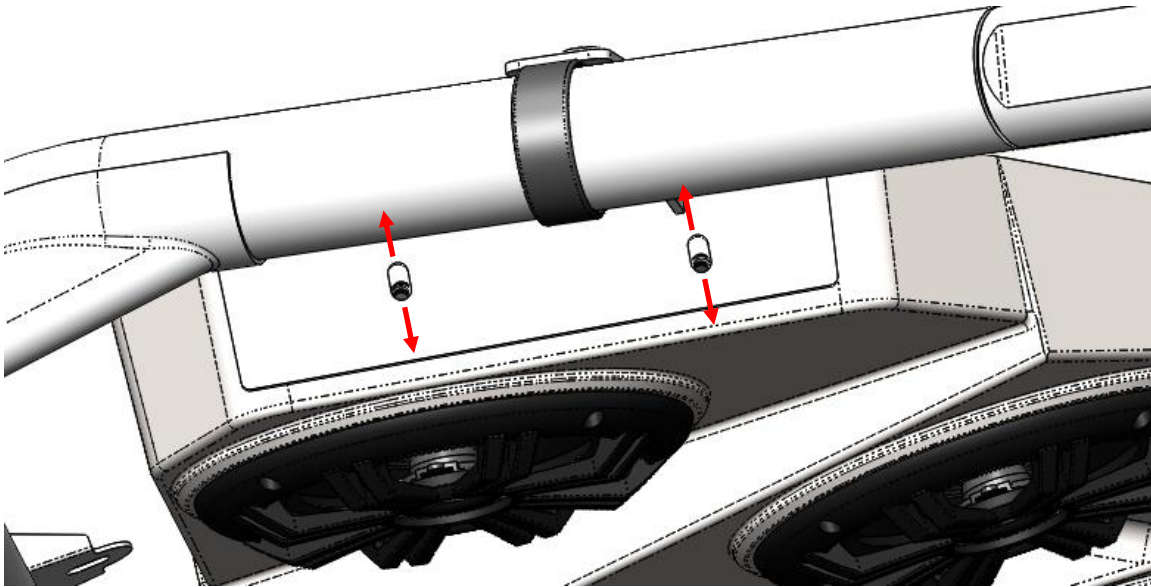
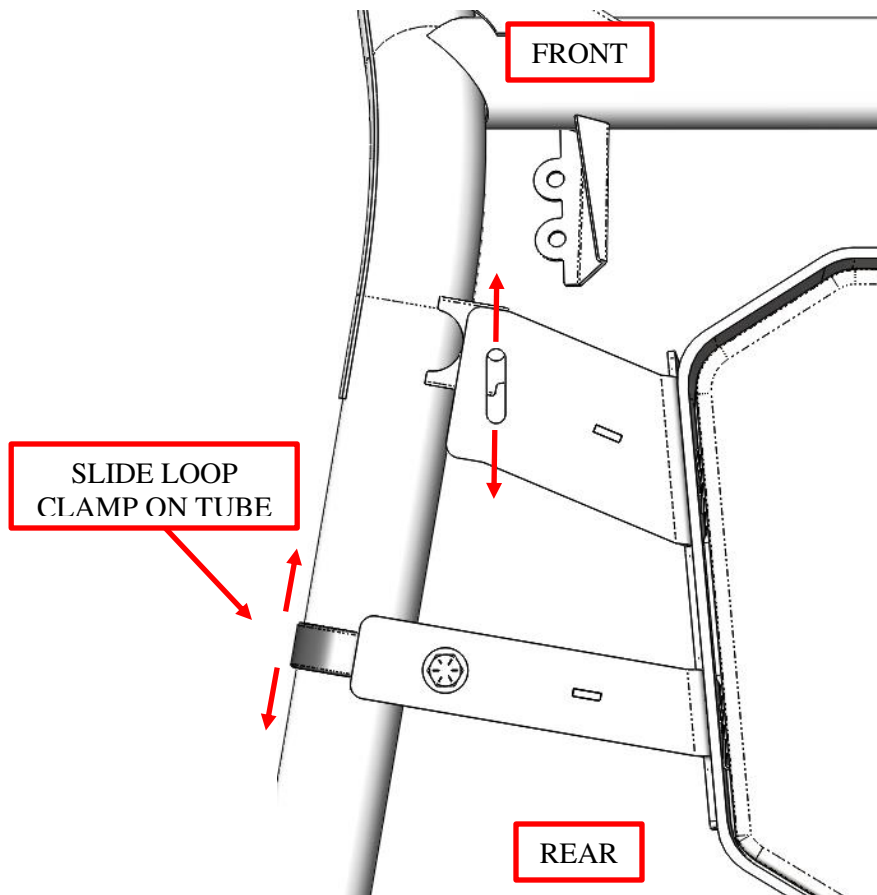

Figure 15: Adjustable up-down positioning of the Audio Mini.
Figure 16: Adjustable front-back positioning of the Audio Mini.
15. Slots in the sides of *Audio Mini* brackets allow up-down movement, while the slots on the tops of the brackets allow front-back movement to achieve your desired viewing position. Slide the loop clamp on the tube with the bracket as you adjust front-to-back positioning. See Figure 15 and Figure 16. Tighten the front roof bolts, both loop clamp bolts, and the 4 mounting bracket bolts after achieving the desired viewing position.